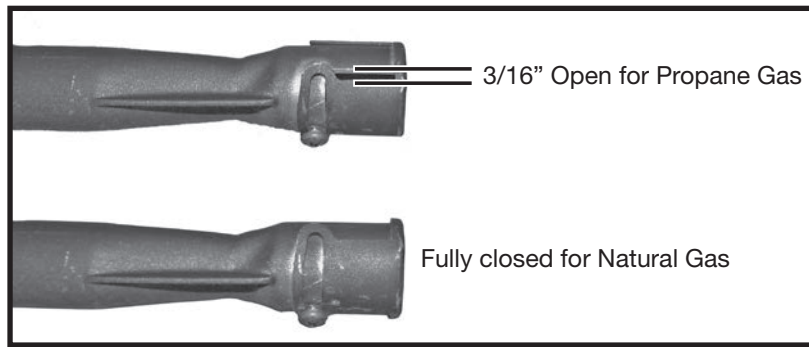

Figure 37: Shutter gap settings.
3. Loosen the primary air shutter screw on each burner, open the shutter to give a gap of 3/16" and re-tighten (Figure 37).